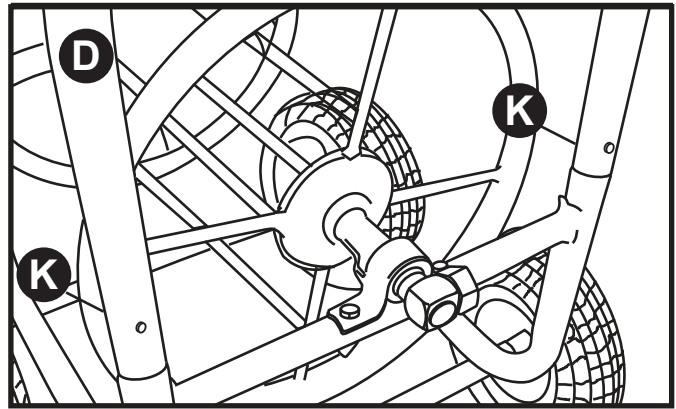

FIGURE 10
10. Slide U-Handle (D) over the frame extensions and align the holes. Insert two 1.44" Bolts (K) through handle holes. **Figure 10**